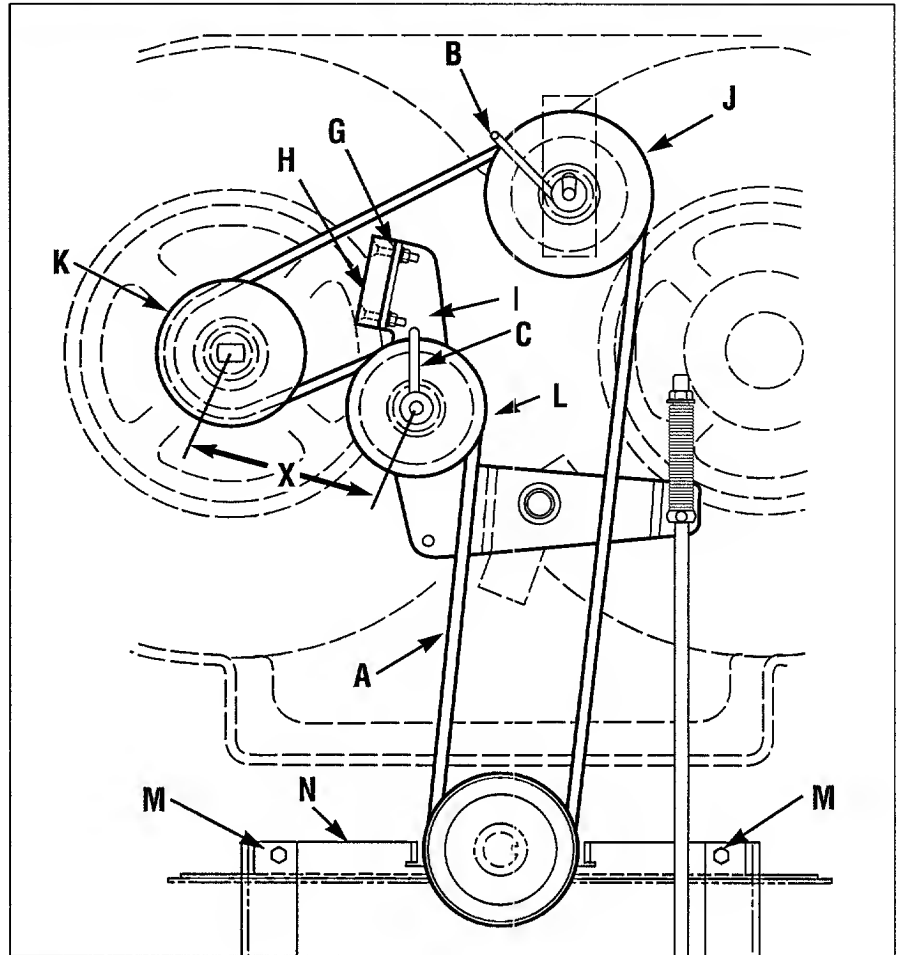

Figure 5-8: Blade drive.
4. Loosen belt guides (B and C, Figure 5-8).
5. Move flap bracket (N, Figure 5-8) out of the way by loosening two screws (M).
6. Remove belt (A, Figure 5-8) from around sheaves.
1. Route belt (A, Figure 5-8) around sheaves as shown.
3. With the Blade Drive Control lever engaged, adjust and tighten belt guide (B) to 1/32 - 1/16" away from tensioned belt. (Be sure that belt does not contact belt guide when belt is under tension.) Secure belt guide (C) rotated into position as shown in Figure 5-8.
5. Re-tighten two screws (M, Figure 5-8) that secure flap bracket (N).
3. Remove hardware (G, Figure 5-8) securing blade brake (H).
4. Remove old brake (H) from idler arm (I).
8. Engage the blade drive and measure the distance (X, Figure 5-8) between the centers of pulleys (K) and (L). The distance should be 5-1/2 to 5-5/8". After obtaining the correct dimension, reinstall the belt cover securely and test the operation of the blade brake.